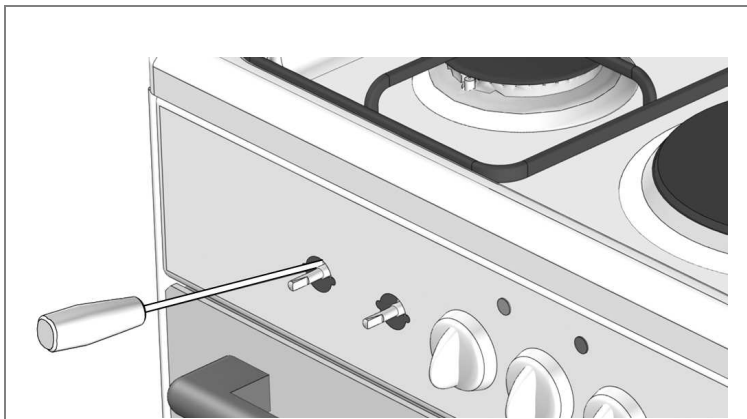

Figure 40
- 2 - Insert a small screw driver into the hole on the left or right side of the gas valve stem (depending on the gas valve design), fully tighten the low flame setting screw (Figure 40). When converting the unit from LPG to natural gas, set the low flame setting screw to achieve low but stable flame.